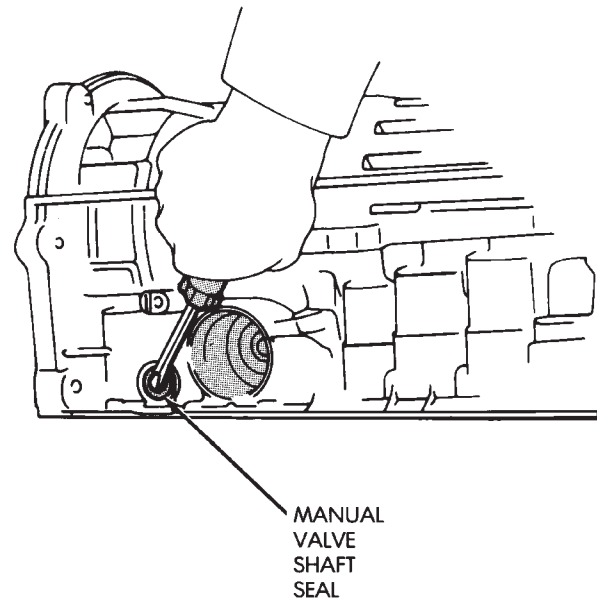
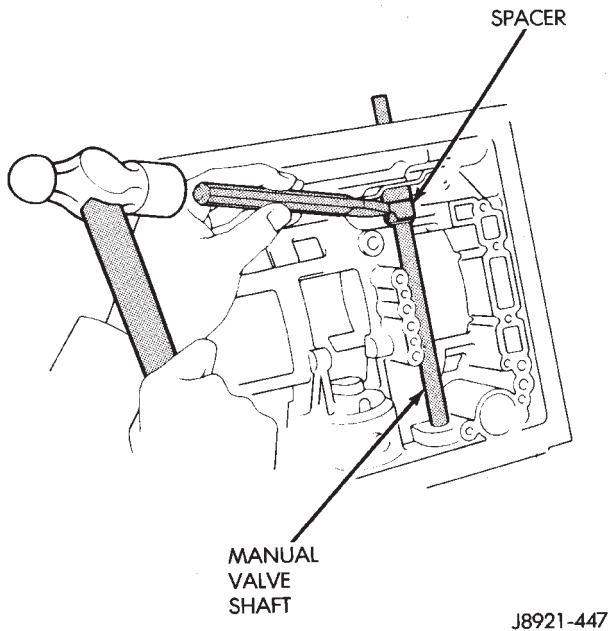

Fig. 23 Removing Manual Valve Shaft Seals
Fig. 22 Cutting Spacer Sleeve
- (5) Cut spacer sleeve with chisel and remove it from manual valve shaft (Fig. 22).
- (6) Remove pin from shaft and sector with pin punch.
- (7) Remove shaft and sector from case.
- (8) Pry shaft seals out of case (Fig. 23).
- (9) Inspect the manual valve shaft and sector. Replace either component if worn or damaged.